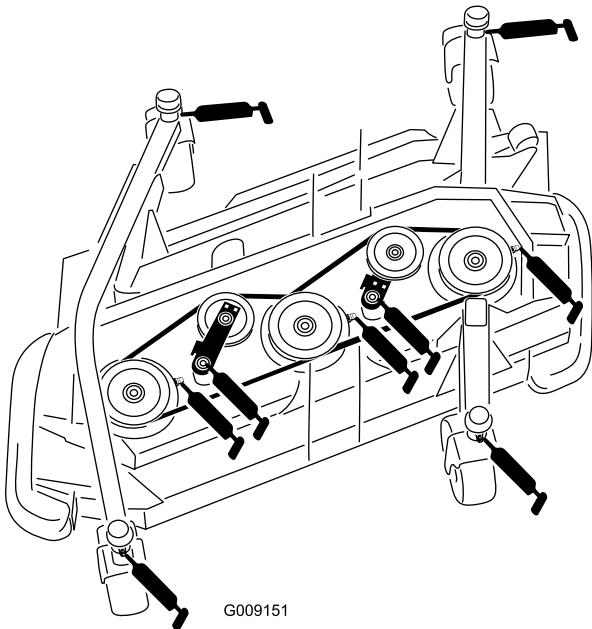

Figure 55
- Castor fork shaft bushings (4) (Figure 55)
- Spindle shaft bearings (3 each) (located on spindle housing) (Figure 55)
- Idler arm pivot bushings (2) (located on the idler pivot shaft) (Figure 55)